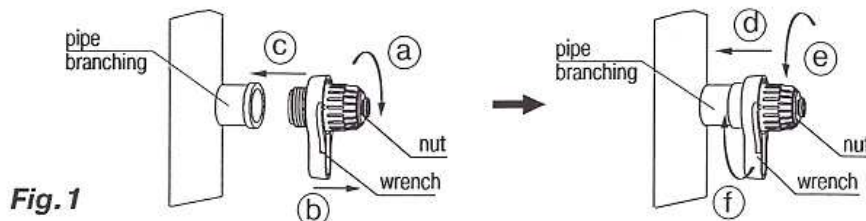

Fig. 1
- turn off clockwise the nut of the control valve (fig. 1, a) and move the plastic wrench towards the nut (fig. 1, b);
- holding the key, screw by hand the control valve (3) into the T-joint with thread packing (fig. 1, c);
- move the plastic wrench from the nut (fig. 1, d) and turn on anticlockwise the nut (fig. 1, e);
- tighten the thread by the plastic wrench (fig. 1, f);
- pull out the clip (13) from-under the plastic bushing of the control valve (installation fig.);
- insert the wetted tubing (14) into the control valve (3) at a 25 mm depth;
- insert the clip (13) under the plastic bushing of the control valve (3);